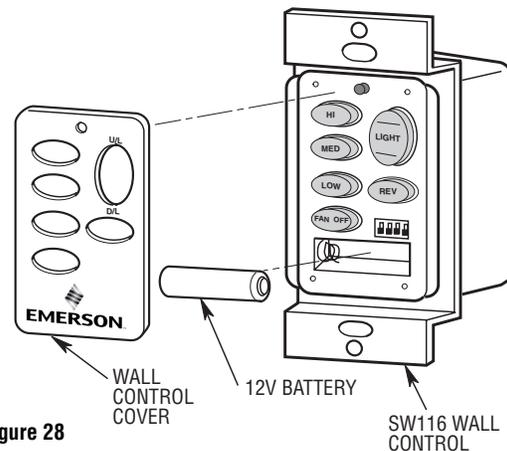

Figure 28
1. Install the 12V battery (supplied) into the wall control (Figure 28).
2. The SW116 wall control is supplied with a white, ivory or almond color cover. Choose the style that best suits your needs and snap the cover onto the wall control (Figure 28).